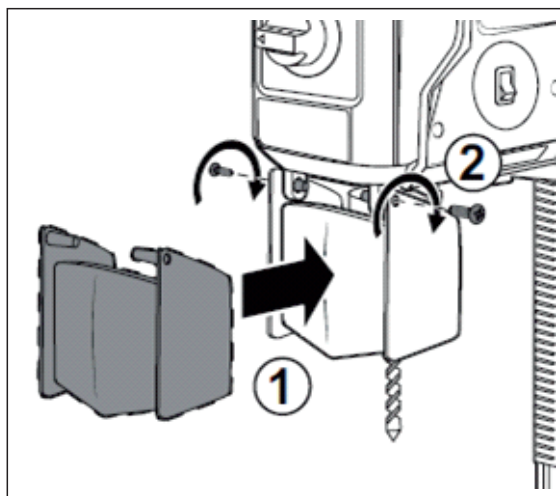

Рис. 3/ Fig. 3
- Tighten the threaded pins (17) using the hex key;
- Install the protective screen (14) onto the machine body using the installation screws from the kit, as shown in Figure 3.